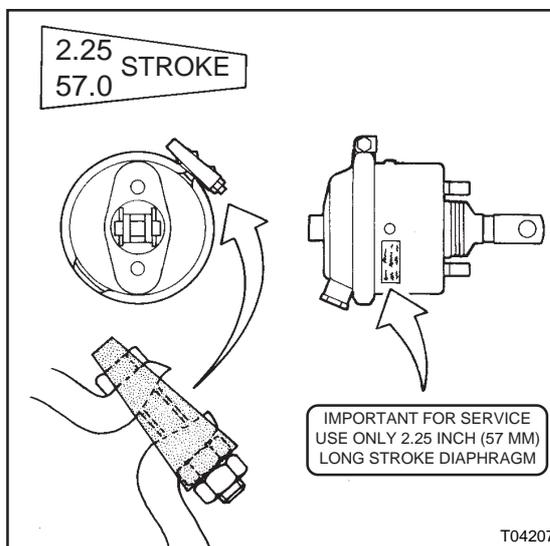

Figure 2: Labeling long stroke brake chamber of the tag axle
- tag axle: 2.25 inch stroke (figure 2)